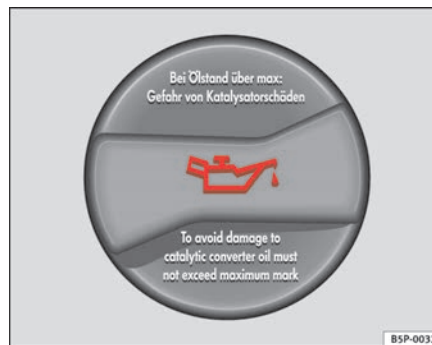

Fig. 159 In the engine compartment: Engine oil filler cap
- Unscrew cap from oil filler opening ⇒ fig. 159.